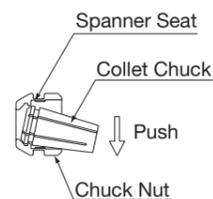

Fig. 21
- (3) Install the new collet in the chuck nut by positioning the collet in the chuck nut and pressing down on a flat surface. (Fig. 21)